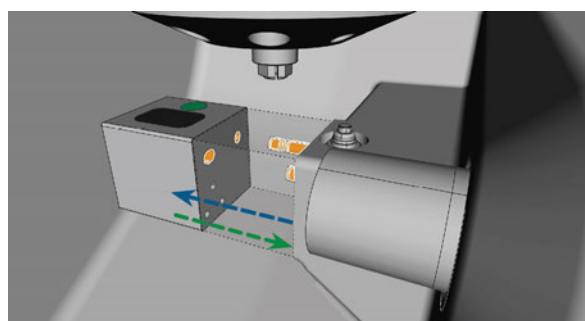

FIG. 45 – EXCHANGING THE TOOL MAGAZINE (TOOL MAGAZINE HOLDER AND HOLES IN THE TOOL MAGAZINE MARKED ORANGE)
3. If an incorrect tool magazine is mounted, remove this magazine by pulling it off the tool magazine holder (↗ Fig. 45 – on the previous page, blue arrow).
6. Plug the tool magazine onto the tool magazine holder (↗ Fig. 45 – on page 44, green arrow):